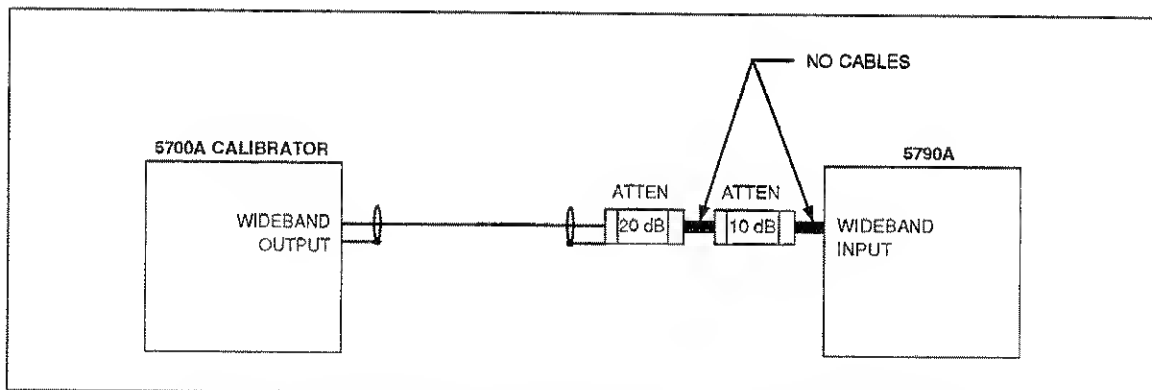

Figure 3-11. Wideband Calibration Source Characterization, Part 2
12. Remove the DMM, A55, and the TEE, and connect the 5700A wideband cable to the attenuator input as shown in Figure 3-11.
16. To calibrate the 22 mV range, connect the equipment as shown in Figure 3-11. Apply 20 mV at 1 kHz when the display asks for it. (The 5700A will need to be set to about 600 mV due to the 30 dB of attenuation.)